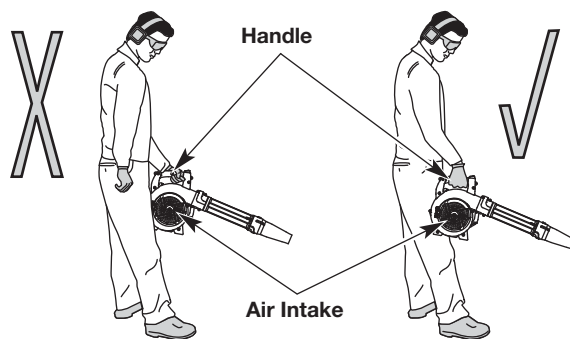

Fig. 9
- Stand in the operating position (Fig. 9). Stand up straight. Do not bend over.
- Hold the handle firmly with the right hand (Fig. 9). Holding the handle with the left hand could cause the air intake to be blocked by the left side of the body (Fig. 9). **DO NOT** block the air intake.